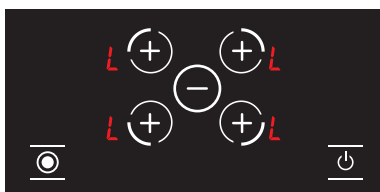

Figure 21
3. Then the child protection lock is activated and a sign **L** is displayed on all hotplates as a signal **L**. (See Fig. 21.) The marks and are displayed alternately in case **H** a hot plate is hot.